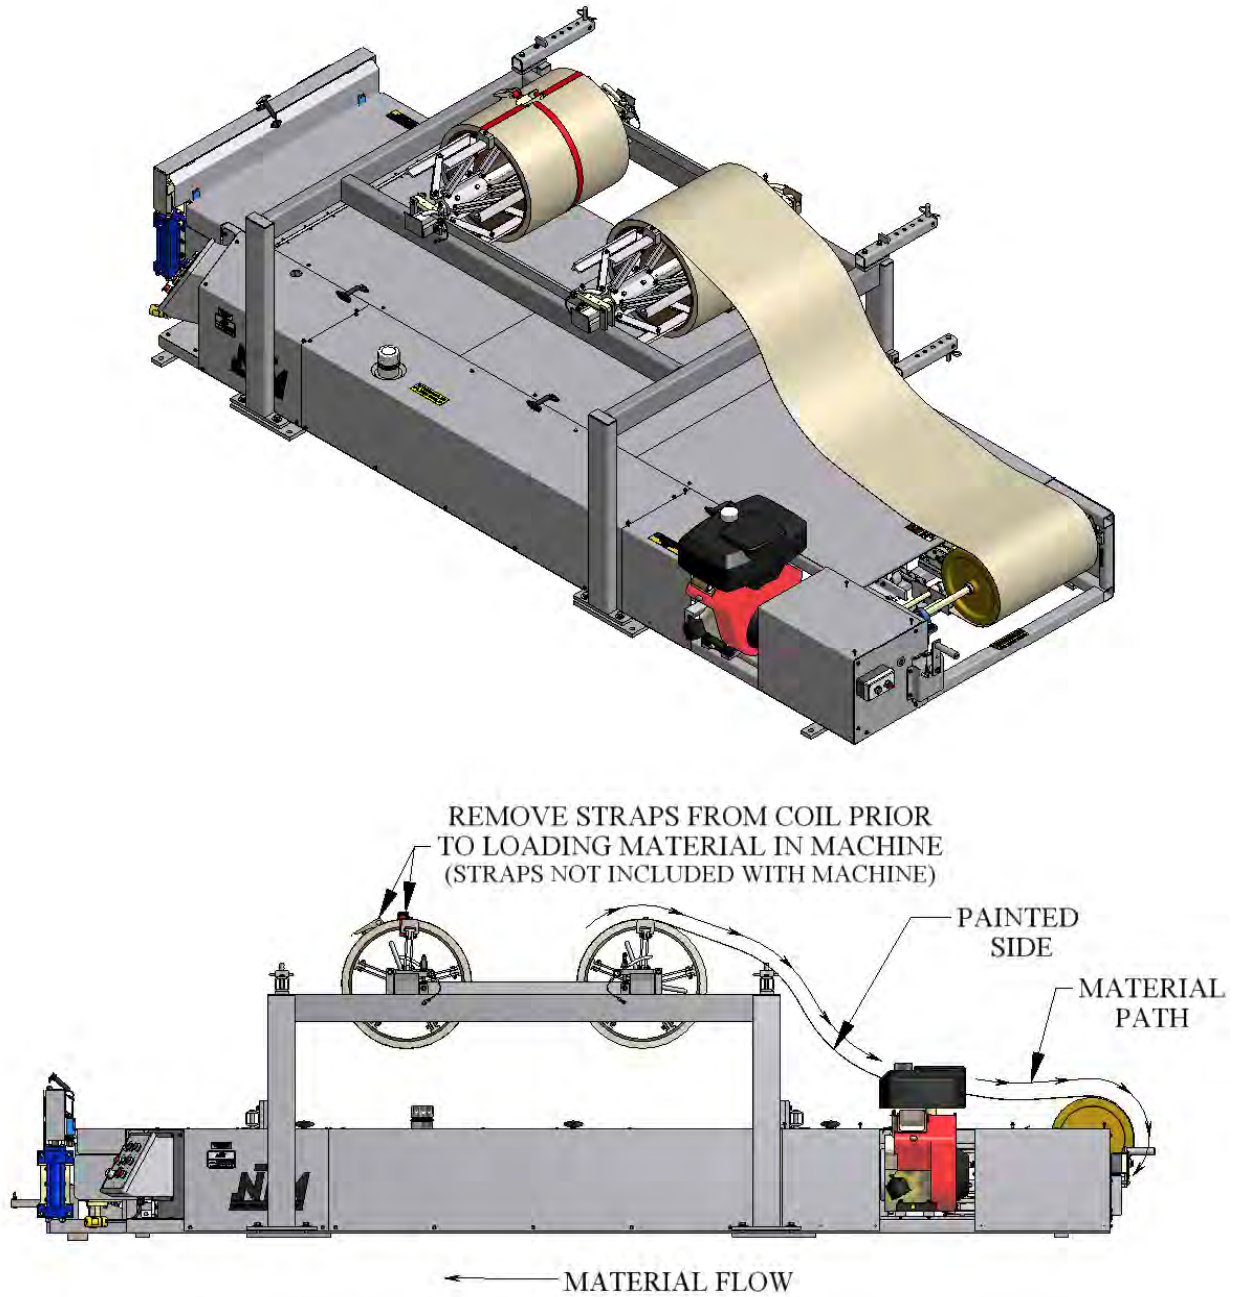

Figure 12: Material Routing
2. Using an approved lifting device, lift the reeled coil into the cradles on the reel stand making sure that the tail of the coil is in the correct position (Figure 12) then remove the lifting device.